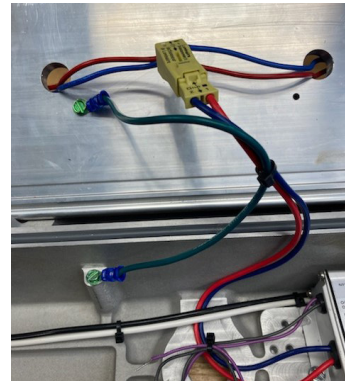

Figure 4. MLLA4 LED light engine fitting wire routing
5. Locate and remove wire tie used to secure LED light engine input wiring (see Figure 4). Use care in removing wire tie so damage is not done to any wires
12. Route LED light engine and LED driver output wiring and install tie wrap as directed in Figure 4. Trim excess tie wrap material